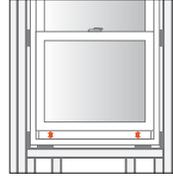

fig. 26 - Single/Double-Hung
- 3 Step 3. The gap should be equal on the Single-Hung and Double-Hung from right to left and on the Slider from top to bottom. (fig. 26 & 27)